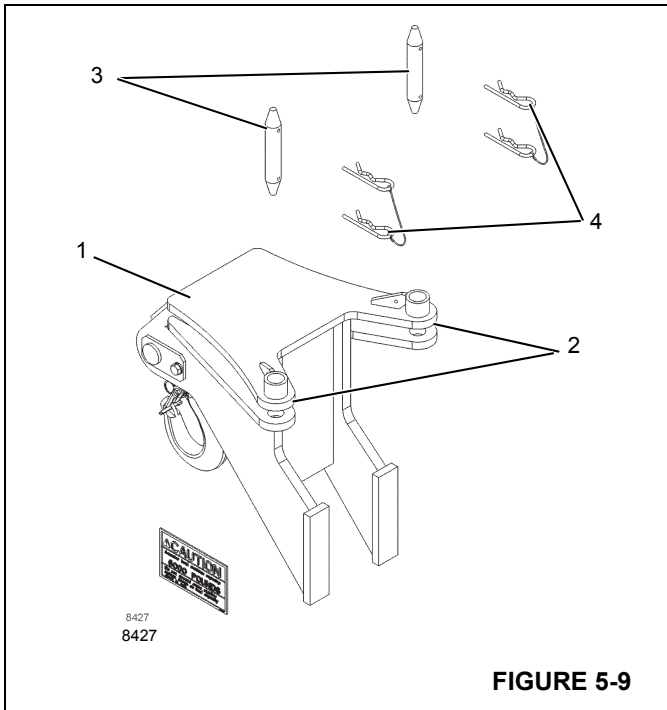

FIGURE 5-9
1. Using a suitable lifting device raise the searcher hook (1, Figure 5-9) in front of the boom nose and align the mounting tabs (2) with the lugs on the boom nose.
2. Install the mounting pins (3) and secure with the retaining clips (4).